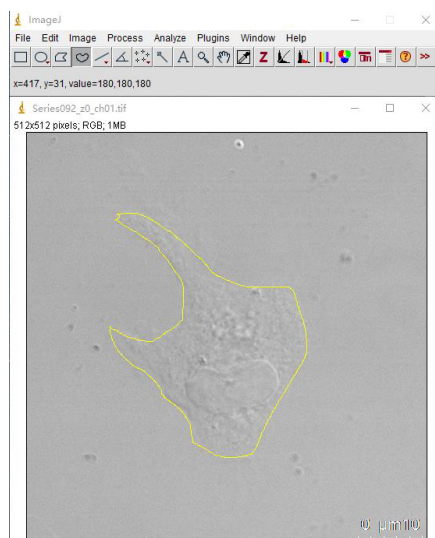

Figure 2. Draw single cell area with ImageJ. Freehand selection tool is used to outline cells according to DIC images.
13. Each cell is outlined, and the total fluorescence intensity per cell is used to quantify uptake of α -synuclein (Figure 2).